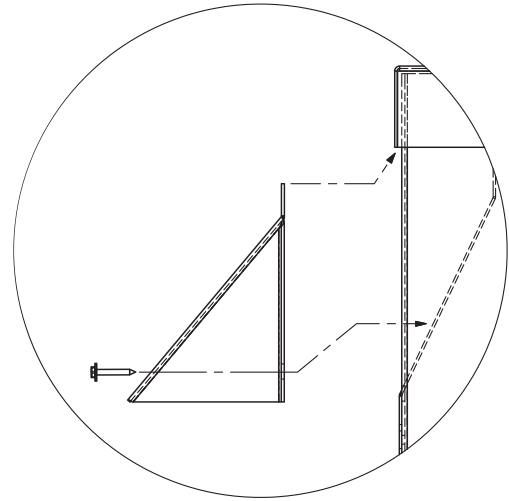

FIGURE 1 - RAINHOOD
- 6) Line up the rainhood mounting holes with the existing holes in the enclosure. Using the screws removed in step 4, secure the rainhood to the enclosure - see figure 1.